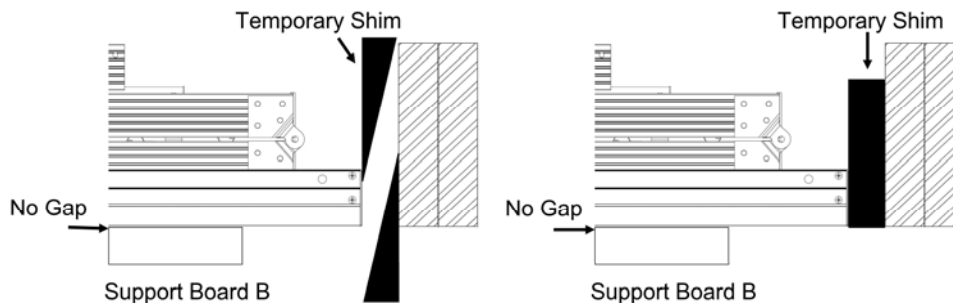
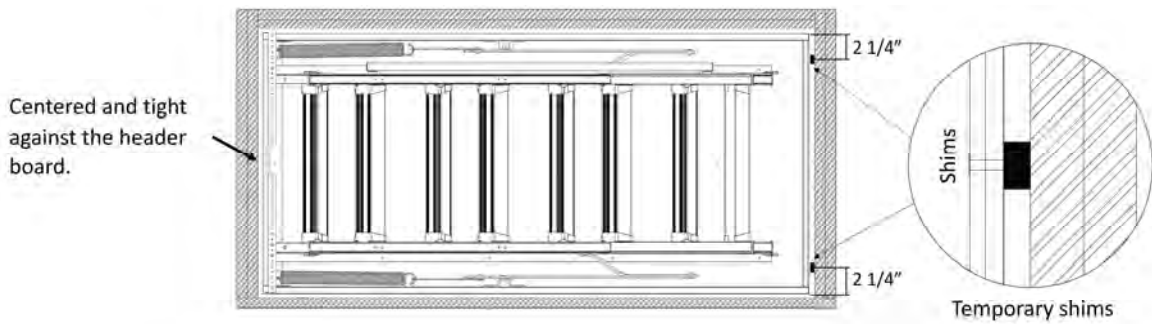

FIGURE 11 : SHIMMING THE FOOTER
FIGURE 12 : SHIMMING THE FOOTER
J. Installer #1 & #2: Place temporary shims from below and above between the aluminum frame and the rough opening at the footer end to keep the opposite end (header/hinge) CENTERED within the rough opening and TIGHT AGAINST THE HEADER BOARD. See **Figure 11**. Temporary shims should provide uniform support so there is no twisting or bowing of the aluminum frame. See **Figure 12** for temporary shims locations at the footer end. Make sure the attic ladder is firmly supported on the temporary supports and has not been lifted.
M. Installers #1 and #2: With the header end of the attic ladder supported by metal straps, the footer end of the frame can now be secured. Check again that the header is tight against the header board and temporary shims are positioned at the footer according to **Figure 12** and that the attic ladder has not lifted off the temporary support boards.